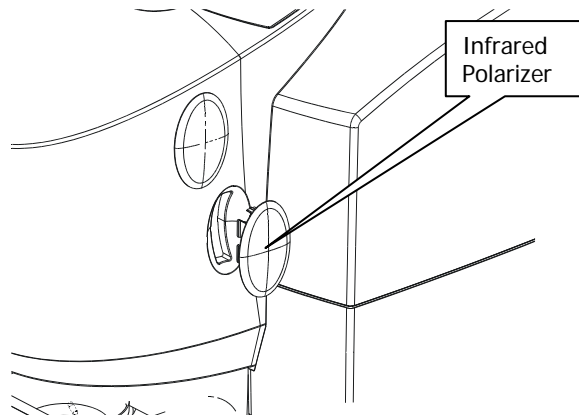

Figure 29 Infrared polarizer position
1. Remove the snap in cover that masks the aperture for the infrared polarizer (Figure 29).